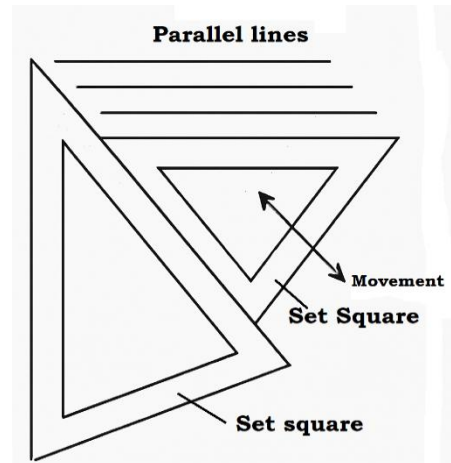

Fig. 1.16: Draw Parallel Lines
5. Drawing Parallel and Perpendicular Lines Using Set Squares (Fig. 1.16):